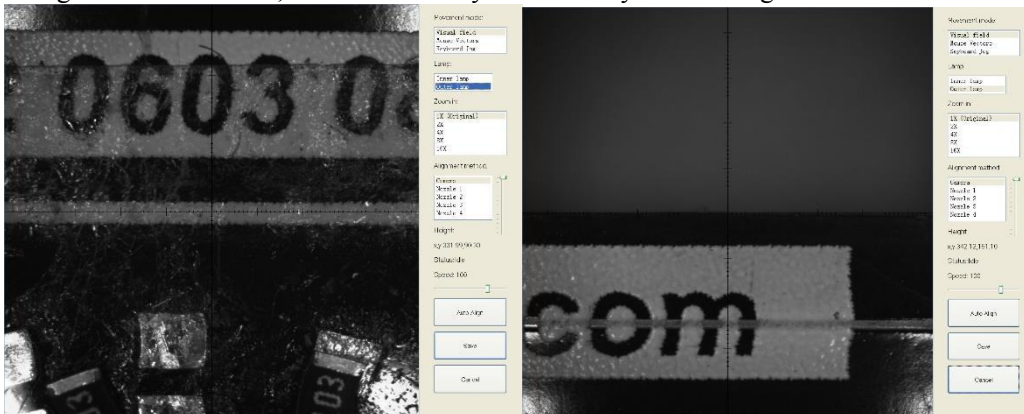

Figure 4.3
**“Align”:** This button activates the camera. Once a board has been placed in the desired location using the “Forward” and “Backward” buttons, press “Align”. Move the head so that the crosshairs are centered on the leading edge of the board. The X and Y coordinates of the aligned location will be displayed in the “Detect X” and “Detect Y” fields. Though the user can enter values manually to change the feed location, this should rarely be necessary. See the Figure 4.3.